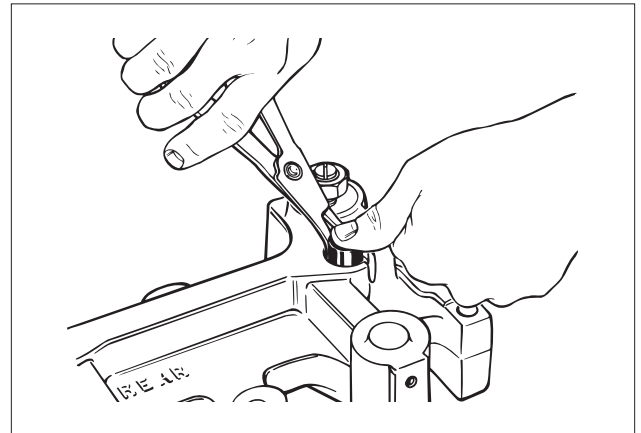

FIG. 13
1. Apply pressure on the control valve cover and remove retaining ring using retaining ring pliers (see Fig. 13).